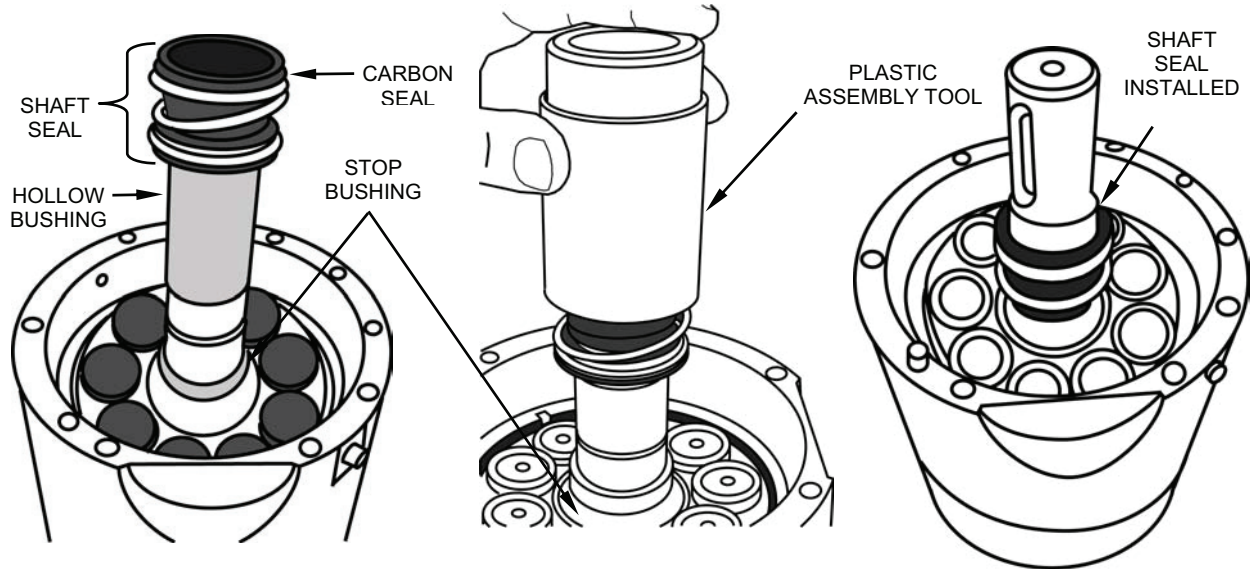

Figure 35. Installing Shaft Seal.
- l. Place the new shaft seal over the hollow bushing with the carbon seal facing up (see Figure 35).
- m. Using the plastic assembly tool with the large diameter pointing down, press the shaft seal down onto the stop bushing (see Figure 35).